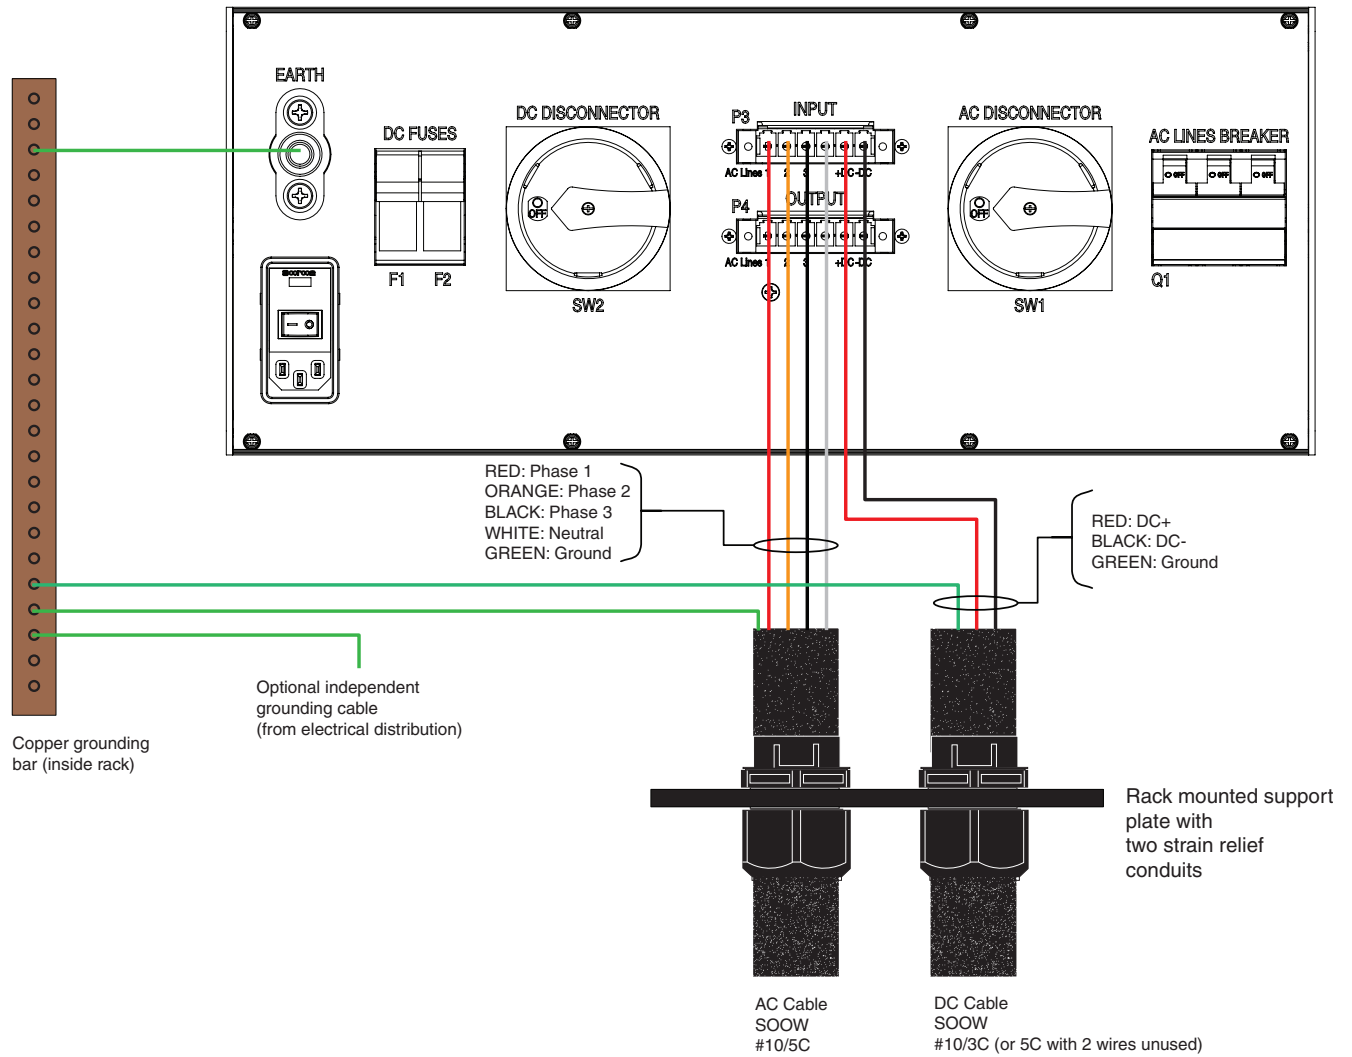

Figure 14: Connecting AC and DC high voltage power input cables
4. Connect high voltage cables to the protection box (refer to the diagram shown in Figure 14).